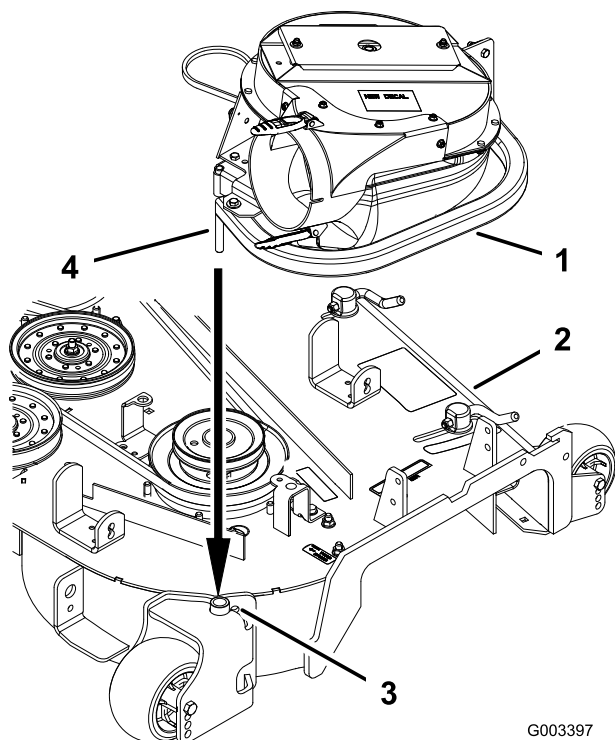
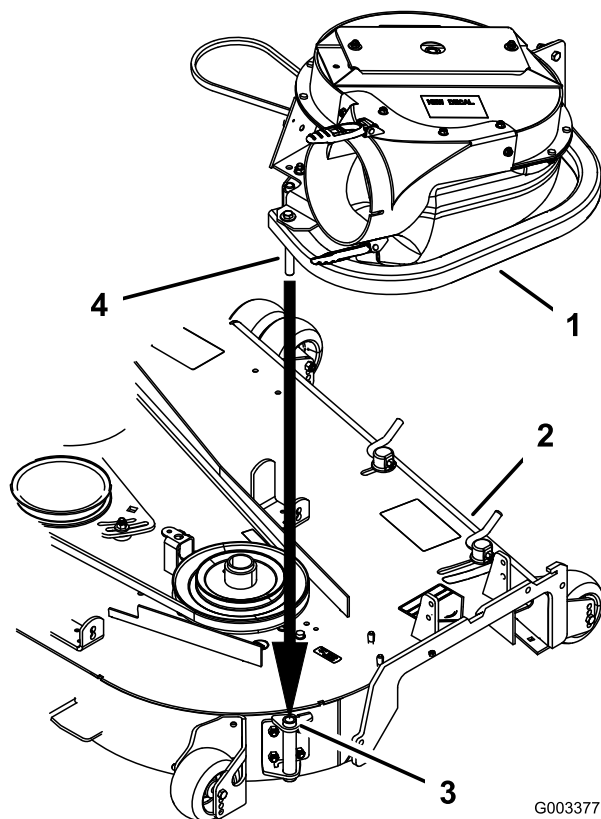

Figure 14
Figure 15
- Slide the blower assembly peg into the pivot hole. For 60 inch mowers refer to Figure 14 and for 72 inch mowers refer to Figure 15.